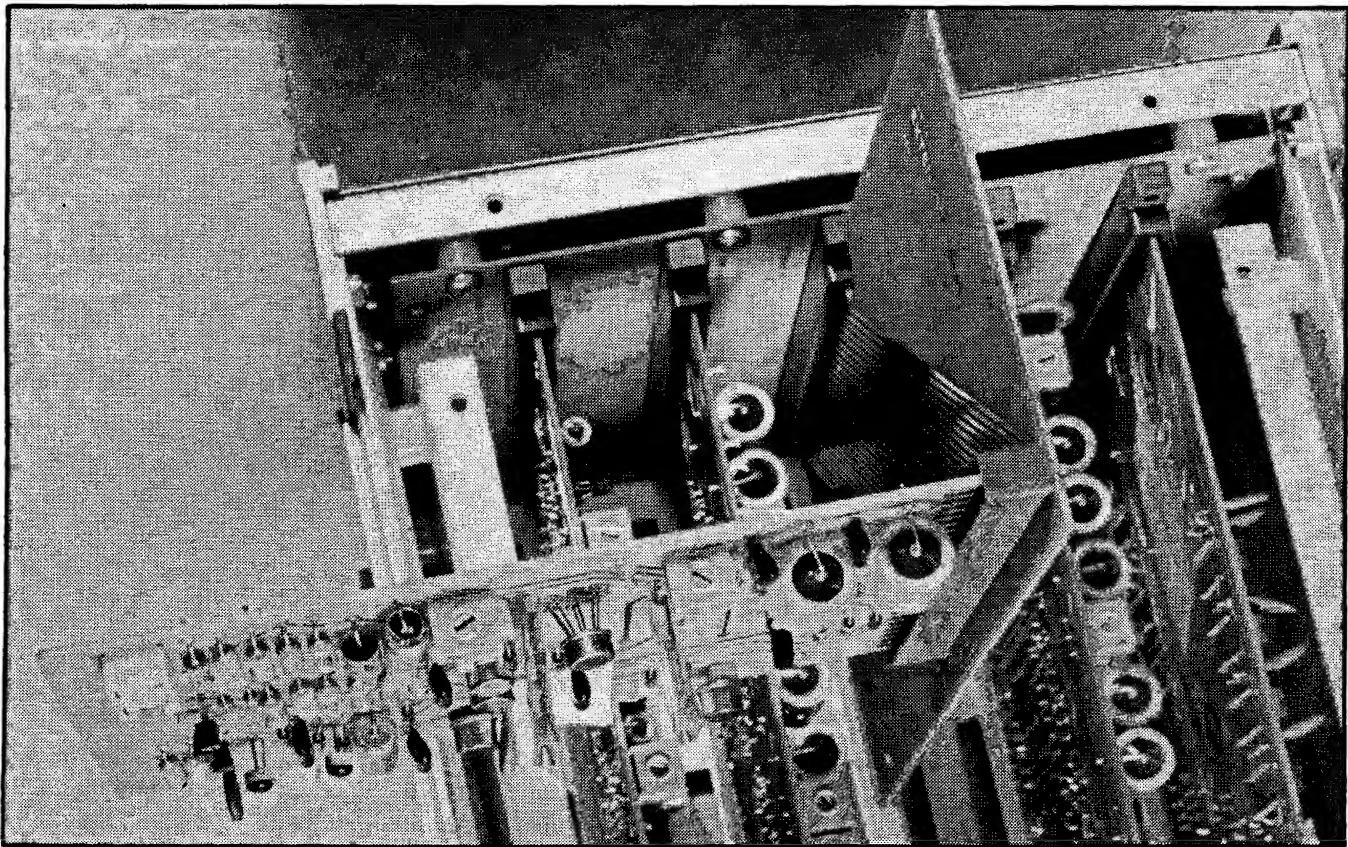

Figure 6-2. EXTENDER CARD INSTALLATION
- 6-4. To install a printed circuit board on the Extender Card as shown in Figure 6-2, proceed as follows:
- Install the Extender Card in the Mother Board connector as shown in Figure 6-2.
- Install the printed circuit board in the Extender Card connector as shown in Figure 6-2.